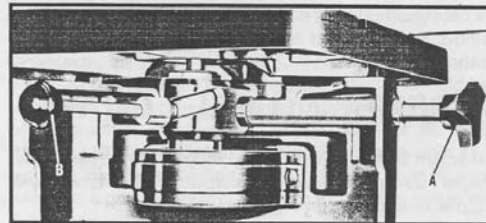

Fig. 6
1. Raise the spindle to the top position by loosening lock handle (A) and moving spindle control lever (B) Fig. 6, to the right.